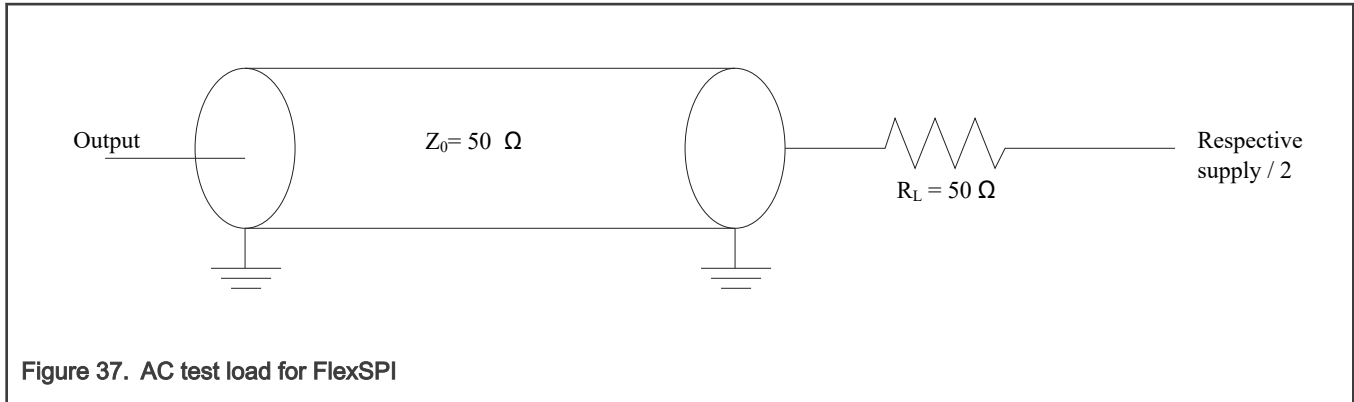
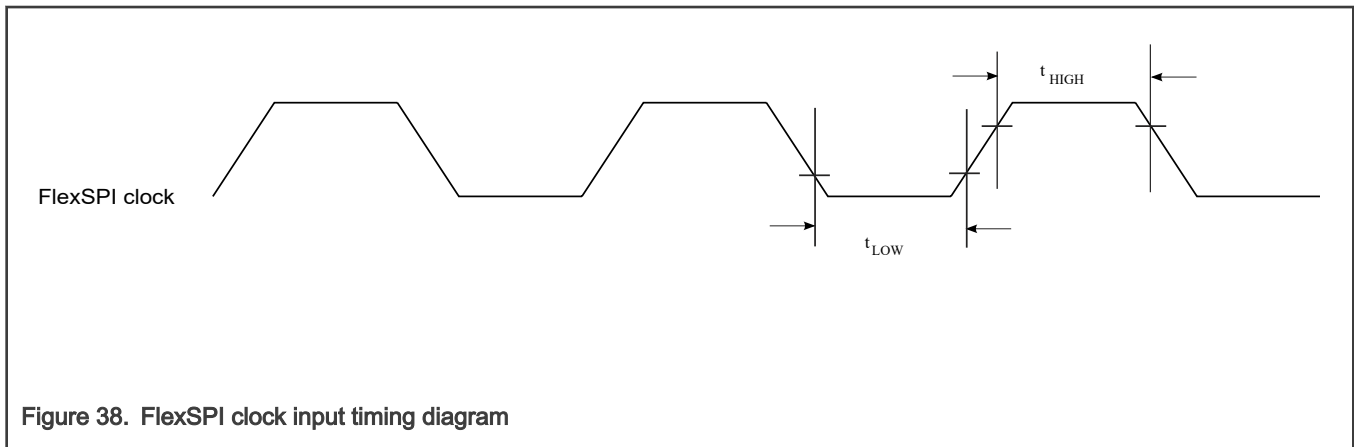

Figure 37. AC test load for FlexSPI
Figure 38. FlexSPI clock input timing diagram
2. See Figure 37.
3. See Figure 38.
1. Refer the FLSHxyCR1 QorIQ LX2160ARM for more details, where x: A or B, y: 1 or 2 2. See Figure 37 . 3. See Figure 38 . 4. See Figure 39 . 5. T = FlexSPI clock period
1. Refer the FLSHxyCR1 QorIQ LX2160ARM for more details, where x: A or B, y: 1 or 2 2. For DDR, Unit Interval (UI) is half of period. For example, 5 ns for 100 MHz 3. See "Data Learning Feature" section in QorIQ LXxxxxARM for details 4. See Figure 37 . 5. See Figure 38 . 6. See Figure 40 . 7. T = FlexSPI clock period